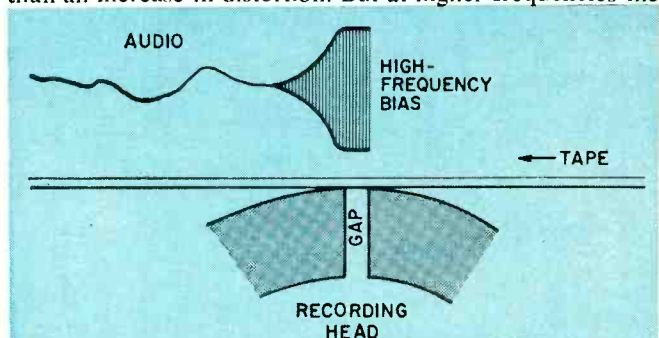

Fig. 1—High frequency bias, superimposed on audio signal, "demagnetizes" tape to instantaneous audio waveform value.
1. It saturates the tape at high frequency and virtually "demagnetizes" the material, leaving the instantaneous value of the audio waveform virtually free of this nonlinear distortion (Fig. 1).